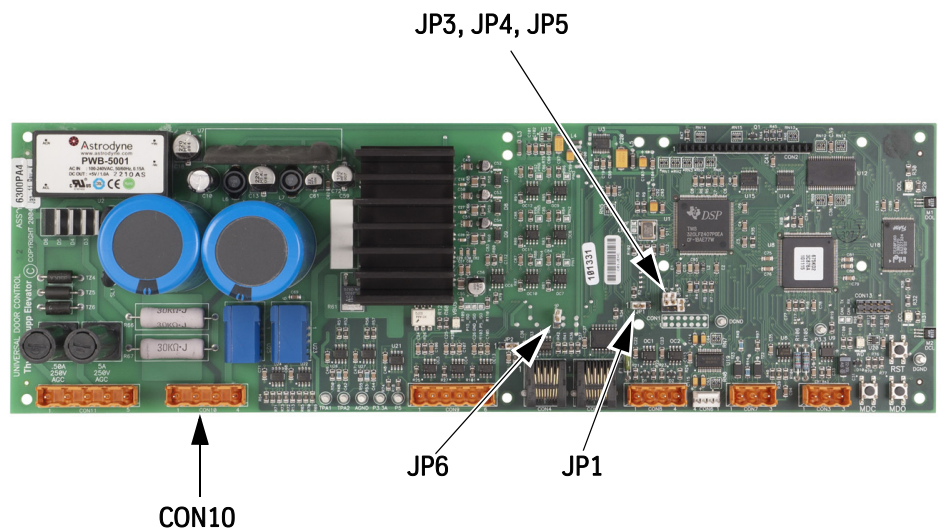

Figure 22 - Door Card Jumpers
5. Ensure that the door configuration jumpers on the door card are installed correctly. See Figure 22 for jumper settings and locations.